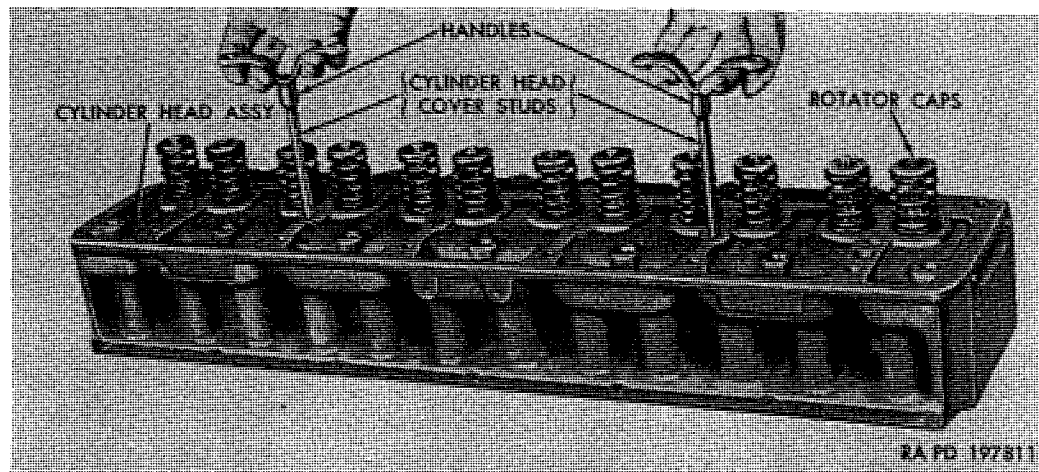

Figure 100. Improvised handles for lifting cylinder head.
- (14) Remove lifting eye nut from special cylinder head bolt at left side of cylinder head. Remove 15 cylinder head bolts. Improvised lifting handles for cylinder head may be installed on long cylinder head cover studs (fig. 100) to facilitate cylinder head removal. Remove cylinder head and gasket from cylinder block.